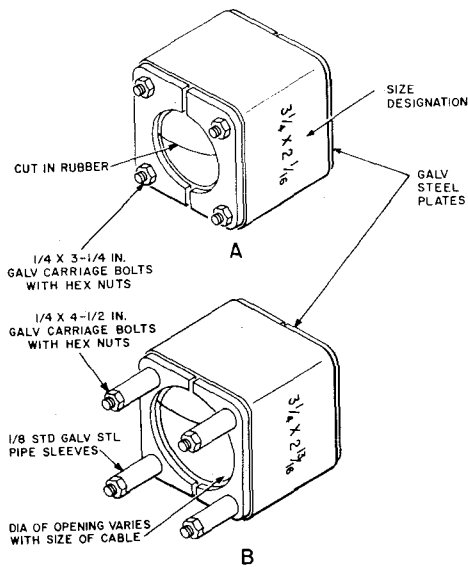

Fig. 2—Square Split Rubber Conduit Plugs
3.03 The square split rubber plug shown in Fig. 2(A) is used for sealing all sizes of cables up to and including those of 2-5/8 inch diameter in 3-1/4 inch square bore conduit.
3.04 For sealing a duct containing a cable larger than 2-5/8 inches in diameter, the type of plug shown in Fig. 2(B) is required. The restricted space between such a cable and the duct walls requires the use of elongated bolts with pipe spacers to make the nuts accessible to the split conduit plug wrench.